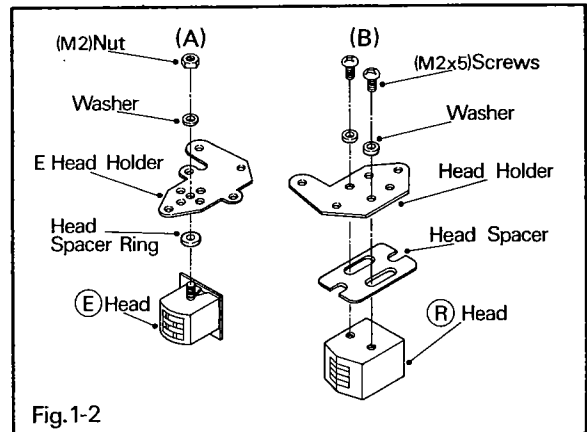

Fig.1-2
3. The removal procedure is as described in the Figure 1-2 (A).
5. Connect the leads to the new erase head by the soldering iron. Mount the erase head referring to the Figure 1-2 (A). Be careful not to mistake the top of the head spacer ring for its bottom. (Don't forget to check the soldered parts and connections.)
6. Insert the erase head into the head holder hole (E). Fit the washer and the 2mm nut, and then tighten it by turning the 2mm box driver clockwise.
4. The removal sequence is as shown in the Figure 1-2 (B).
7. Then mount the record head on the head assembly referring to the Figure 1-2 (B); insert the screws through the head holder hole and turn them clockwise by the 2mm cross-headed driver.